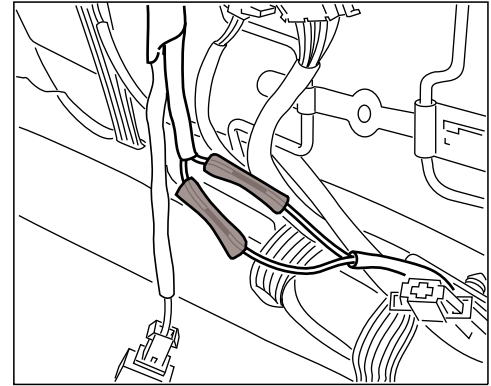

Figure 5
- 3.6 Position the shrink-fit hoses over the cable connections and then shrink the hoses with a hot-air gun (⇒ *Figure 5*).